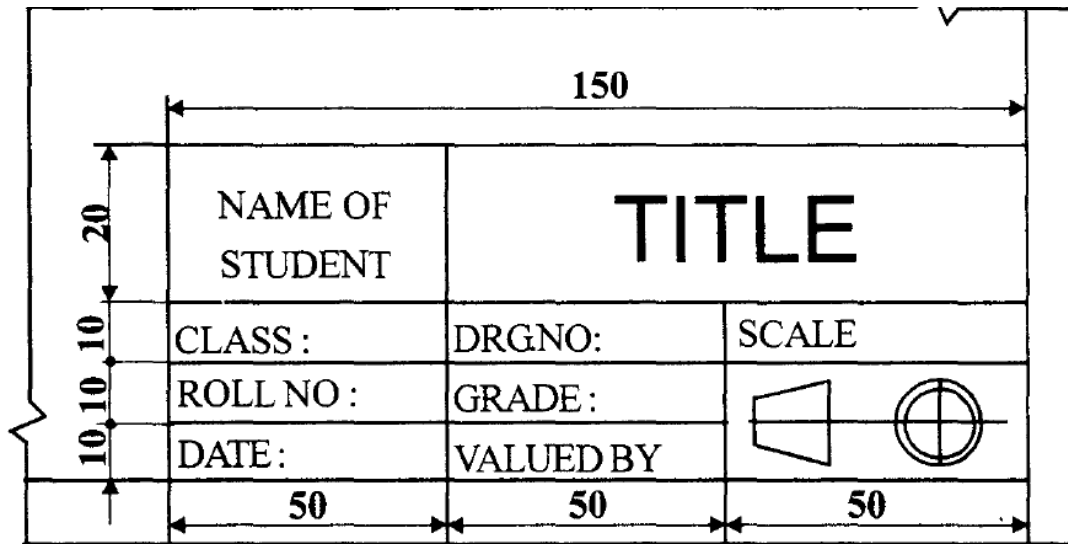

Figure 3 Title Block Dimensions
- **Name** Show the name of the originating company or business (and address if desired). Refer to Figure 3.